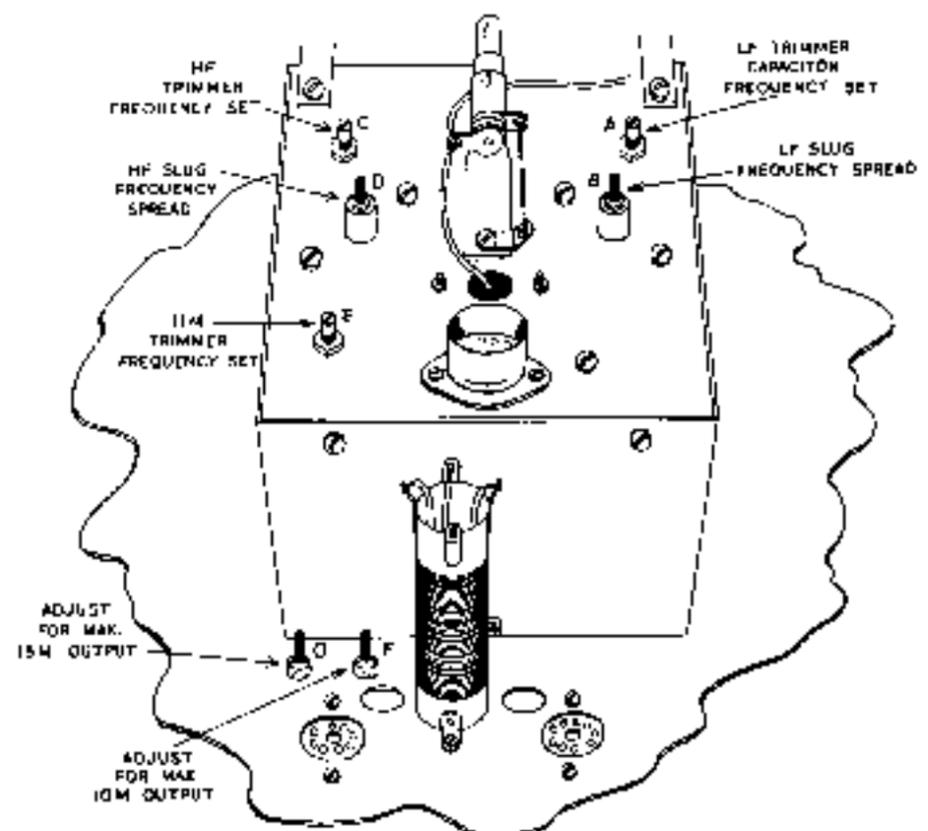

Figure 20
During the alignment procedure, the **DRIVE** control should be fully counterclockwise, the **CW-PHONE** switch should be on **CW** and the **PLATE** switch should be **OFF**. **NOTE:** If a frequency meter is used for calibration, the frequency meter signal and the **VFO** signal should be zero beat against each other in a receiver with the **BFO** off. When using crystals for calibration, set the receiver to the crystal frequency with the **BFO** on and zero beat the **BFO** in the receiver. Align the **VFO** for zero beat without changing the receiver tuning and the **VFO** frequency will be the same as the crystal frequency. Aside from this difference, the following procedure may be used for either method of calibration. Refer to Figure 20 for location and identification of the various calibrating adjustments.
**NOTE:** It should be noted that the trimmer capacitors (A, C and E in Figure 20) are used to set a definite frequency point on the dial, while the coil slugs (B and D in Figure 20) determine the overall frequency range covered by the dial. The capacitors are set to a particular frequency near the low end of the band and the slugs are adjusted so that the high frequency end of the band coincides with the dial reading. These two adjustments interact with each other and therefore should be adjusted alternately until optimum overall calibration is obtained.
Repeat the procedure outlined above for the higher bands. Move the bandswitch to the 40 meter position and leave all other controls the same. The receiver and signal sources (crystal or frequency meter) must operate between 7 and 7.425 mc. Trimmer C and slug D in Figure 20 operate the same on this band as trimmer A and slug B on the lower band.
Set the bandswitch to the 10 meter position and the VFO dial to 28.8 mc. Advance the DRIVE control until a grid current reading can be obtained on the meter when tuning the driver stage for a peak. Adjust slug F (as shown in Figure 20) for a maximum reading on the meter.